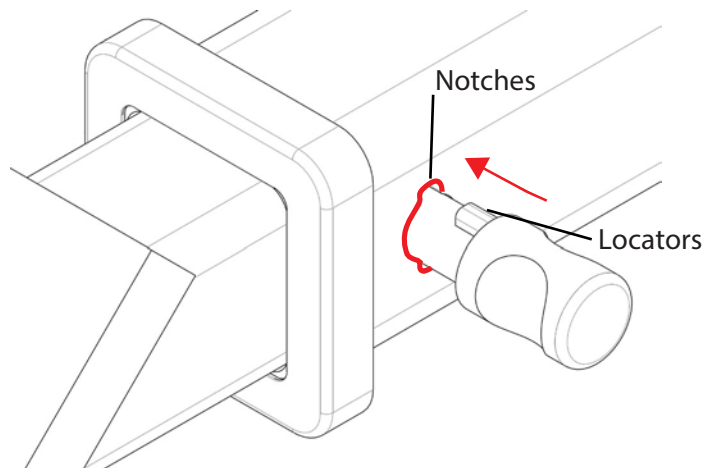

Fig 3. Silent Anti-Rattle Hitch Pin orientation
- e. Remove 2 torx screws on top of the bumper, refer figure 3.
**Figs 3 remove
Insert HITCH PIN through hole in HITCHBOX and hole in TBM SHANK; ensure the LOCATORS are inserted into the NOTCHES in the HITCHBOX (Fig. 3).